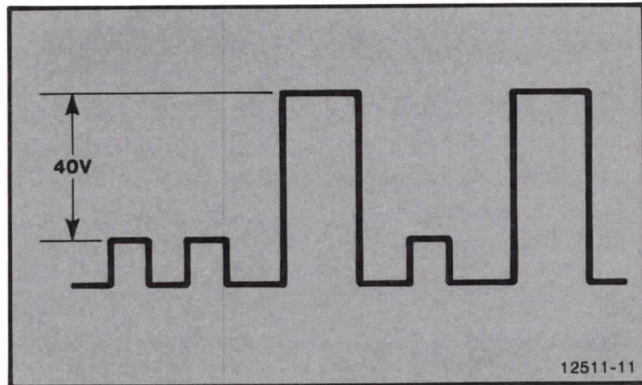

Figure 4-12. Waveform at R246.
- a. Press and hold down a character key and observe the Figure 4-12 waveform at the top of R246 on the HV & Z Axis board.